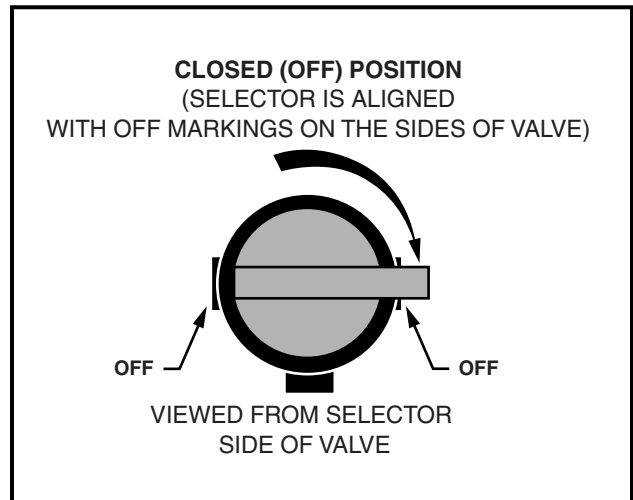

Figure 3-5 Fuel Valve – Closed
- 5.1. Turn the fuel shut-off valve to the closed (OFF) position (**Figure 3-5, Page 3-3**) and run the engine until it stalls. **See DANGER "Do not operate gasoline vehicle..." in General Warning, Section 1, Page 1-1.**